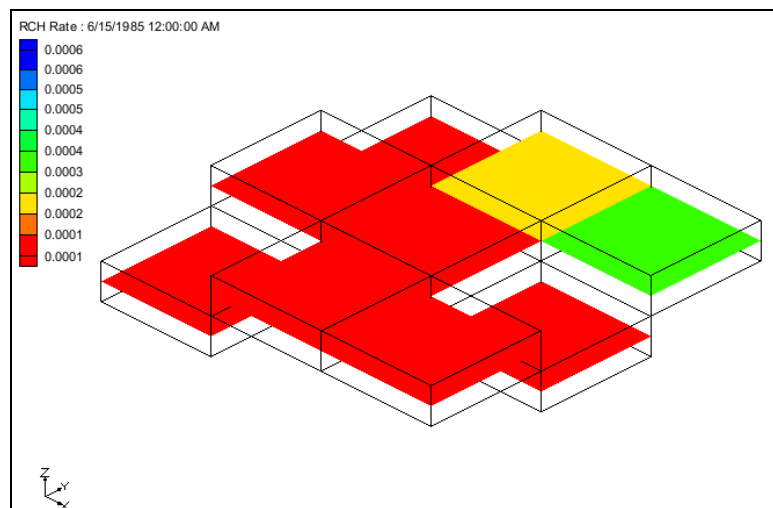

Figure 8 RCH rate contours
1. Select the “ RCH Rate” item in the Project Explorer to change the view (Figure 8).
The view will look like Figure 8.